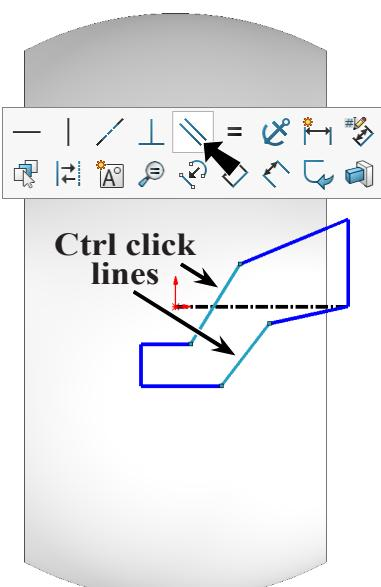

Fig. 14
Step 8. **Ctrl click left set of angled lines** to select both. Release Ctrl key and click **Make Parallel**  on the context toolbar, **Fig. 14**.
Step 9. Click **Smart Dimension**  (S) on the Sketch toolbar.